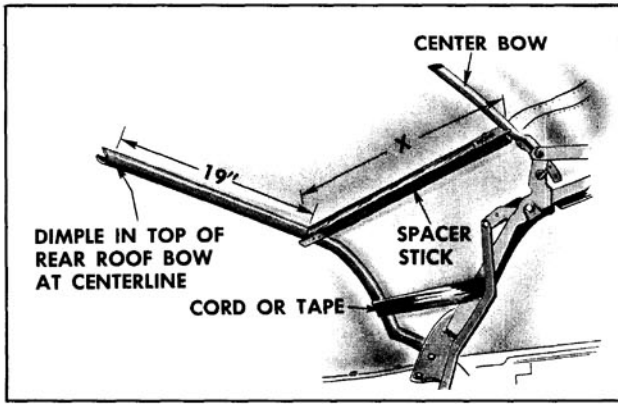

Fig. 16-436 Installing Spacer Stick
of spacer stick so that metal plate fits under rear roof bow. (Fig. 16-436) Spacer sticks should be installed along inboard edge of side stay pad.
1. If new top is being installed but it was impossible to perform Step 16 of removal procedure, pre-set spacer sticks to shortest length and install between center and rear roof bow. (Fig. 16-436) Adjust sticks so that dimension "X" (measured along spacer stick from front upper rolled edge of rear roof bow to center of center bow) is 17-5/8". Tie or tape rear bow to rear side roof rails.